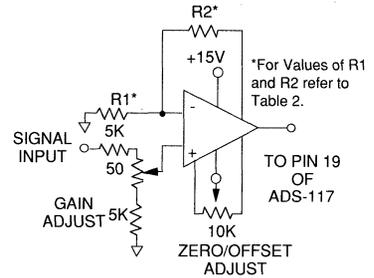
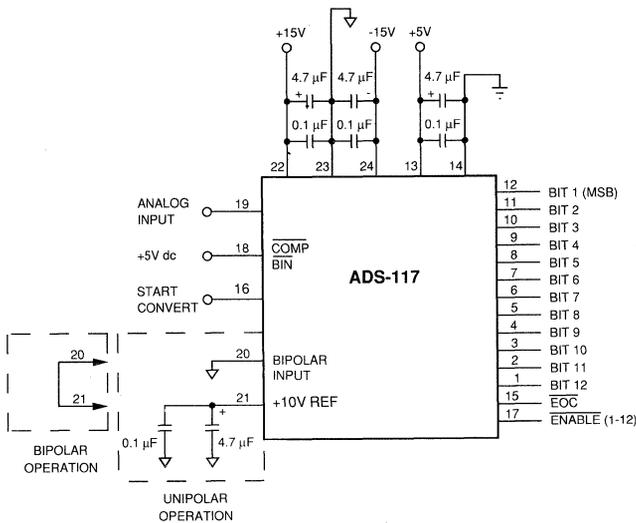

Figure 4. Optional Calibration Circuit
Figure 3. Typical ADS-117 Connection Diagram
① For ±12V, +5V operation, contact DATEL
② +5V power usage at 1 TTL logic loading per data output bit.
1. Applications which are unaffected by endpoint errors or remove them through software will use the typical connections shown in Figure 3. Remove system errors or adjust the small initial errors of the ADS-117 to zero using the optional external circuitry shown in Figure 4. The external adjustment circuit has no effect on the throughput rate.
1. Connect the converter per Figure 3, Figure 4, and Table 2 for the appropriate full-scale range (FSR). Apply a pulse of 150 nanoseconds to the START CONVERT input (pin 16) at